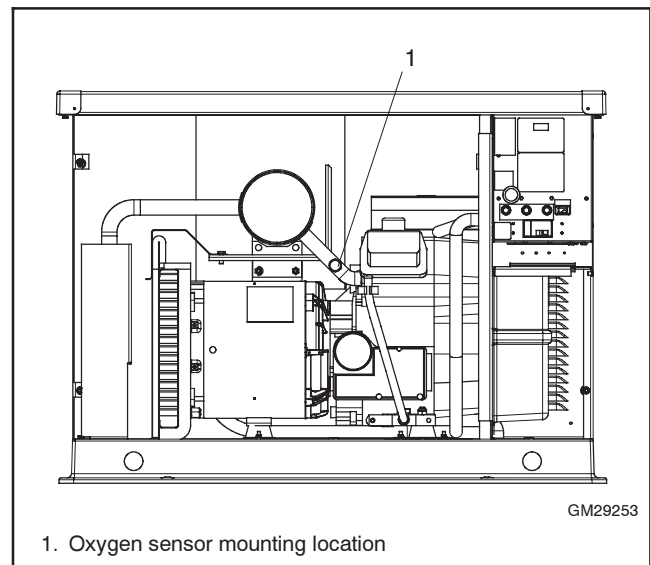

Figure 6-38 Oxygen Sensor Mounting Location
3. Remove the oxygen sensor plug from the exhaust manifold and install the oxygen sensor. See Figure 6-38 for location.